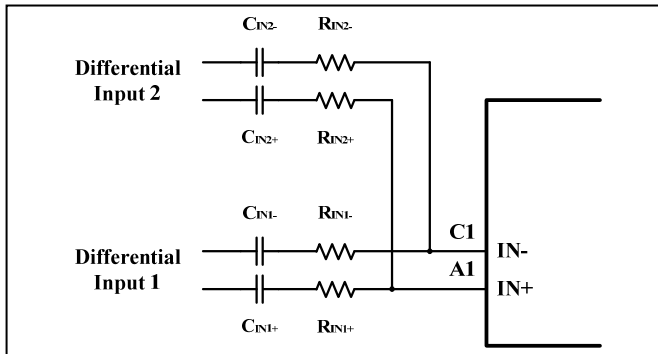

Figure 9 Summing Two Differential Inputs
Two extra resistors are needed for summing differential signals (a total of 5 components). The gain for each input source can be set independently (see Equations (4) and (5) and Figure 9).